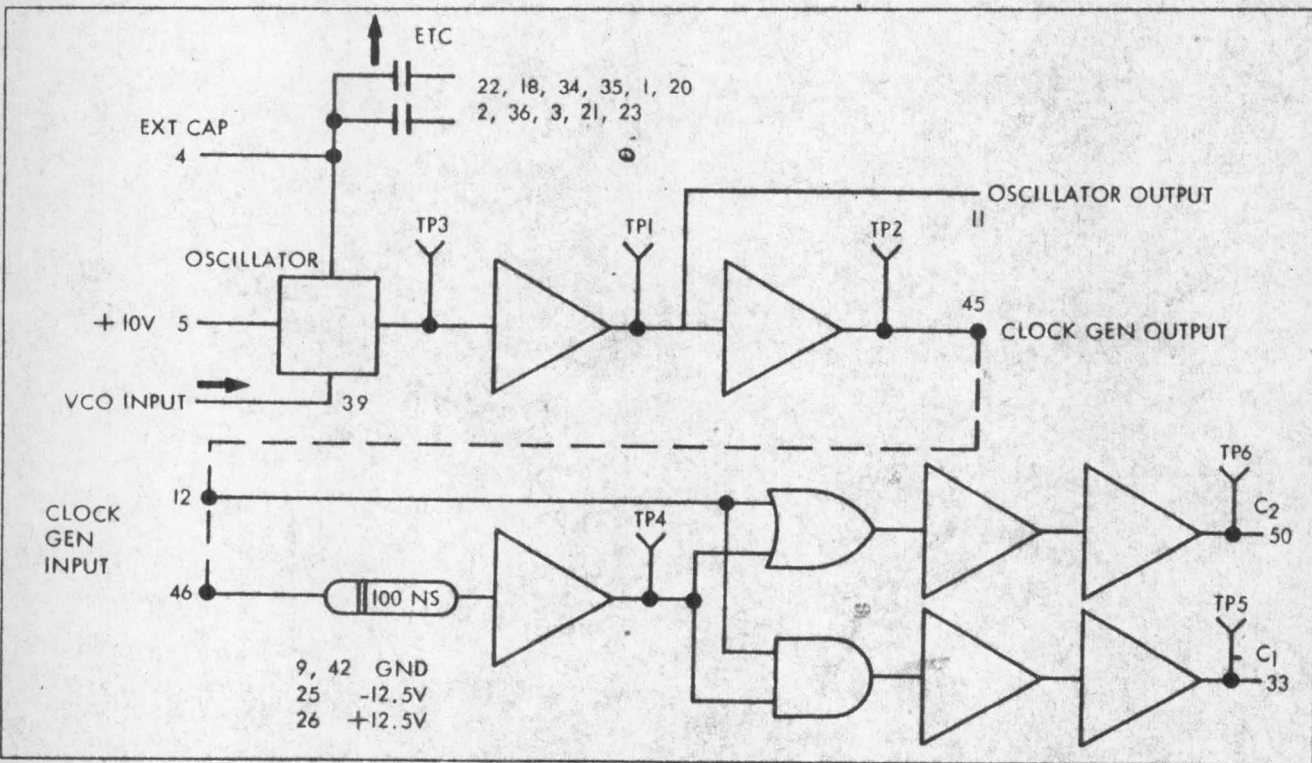

Figure 2. Clock Oscillator Model 600140, Logic Diagram
4. CIRCUIT DESCRIPTION (See figures 2, 3, and 4)
5. Resistance Adder Network - The resistance adder network receives three inputs. The analog input is received through R1 to R3, the switch matrix output is applied to pin 20, and a +10-volt reference is applied to pin 18. The analog input is the input applied to the basic equipment. The switch matrix provides a precise voltage dependent upon its selected resistance value. The +10-volt reference is used whenever an offsetting voltage is required to provide bipolar operation. Refer to figure 2 for a simplified schematic of the resistance adder network. The amplifier input is obtained at the junction of the three resistances (R1 + R3 + R4), (R2 + R5), and (RX). Assume a balanced condition such that (R1 + R3 + R4) equals (R2 + R5) equals (RX)/2. If E_{ref} equals -10 volts, E1 is at the ground position and the amplifier input is at null,
4. CIRCUIT DESCRIPTION (See Figures 2 and 3).